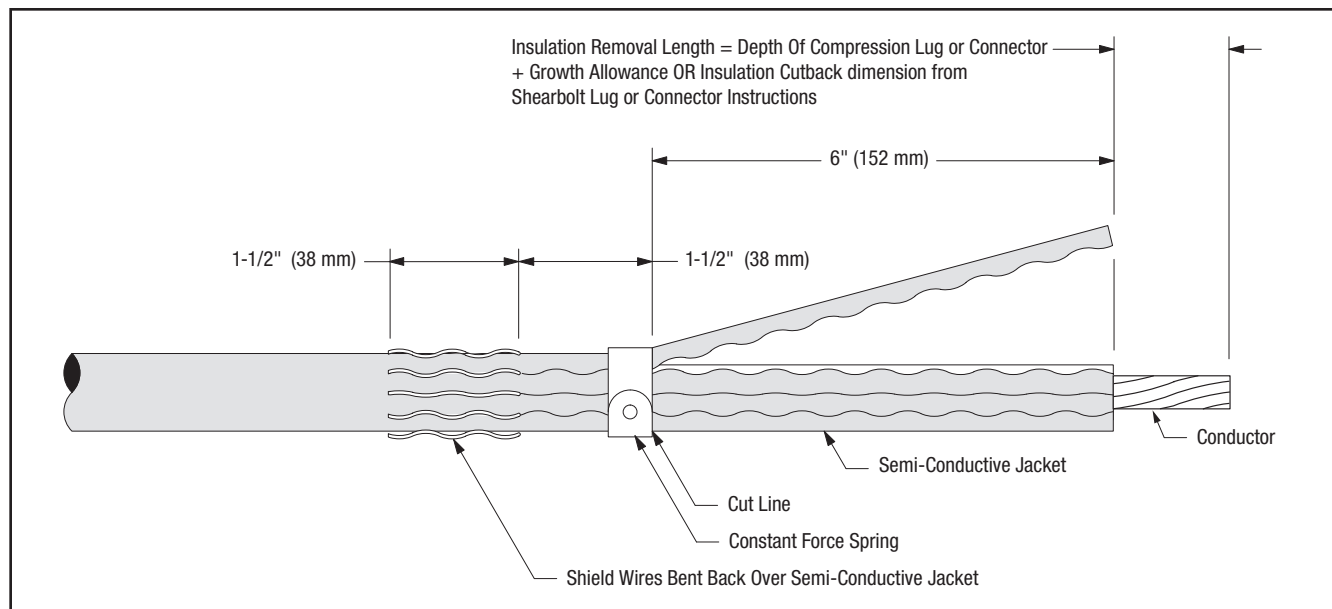

Figure 20
12.7 Remove semi-conductive jacket to dimension shown in *Figure 20*.
NOTE: To ease jacket removal, install constant force spring as shown in *Figure 20* and ring cut 80% through jacket. Remove jacket sections by pulling against constant force spring. **DO NOT BELL SEMI-CON JACKET.** Remove constant force spring.